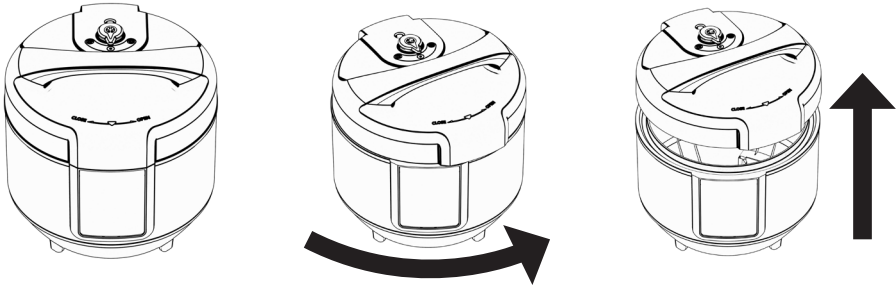
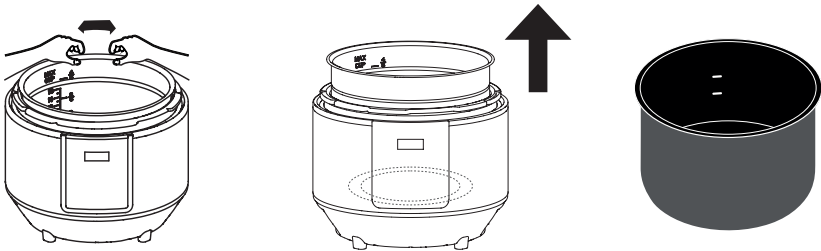
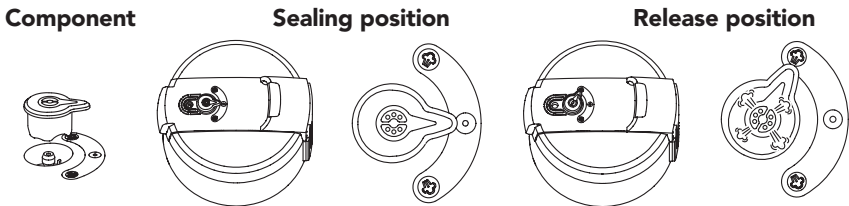

FIG. 2 HOW TO REMOVE/REPLACE THE COOKING POT INSIDE THE BASE
FIG. 3 HOW TO REMOVE/INSTALL THE PRESSURE RELEASE VALVE
FIG. 4 HOW TO REMOVE/INSTALL THE SEALING RING
- C. Remove the inner cooking pot (Fig. 2), the pressure release valve (Fig. 3), the sealing ring (Fig. 4) and wash in hot soapy water with all other accessories. Dry thoroughly.
- Open the lid, take out the cooking pot and add all ingredients inside the inner cooking pot. Refer to Fig. 2.
3. Place the inner cooking pot inside the appliance. Refer to Fig. 2.
NOTE: Ensure the sealing ring is properly installed before operating. Do not operate the sealing ring is damaged. Refer to Fig. 4.
5. Position the pressure release valve to the "sealing" position . Refer to Fig. 3.
10. Release the pressure by turning the **PRESSURE RELEASE** valve (see FIG.3). Allow all steam to escape before opening the lid.